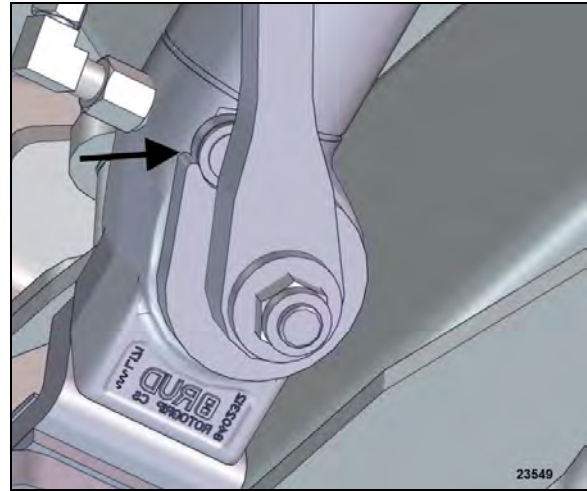

**FIGURE 32: ELECTRO-PNEUMATIC VALVE & 70 PSI VALVE PROTECTION IN FRONT COMPARTMENT**
- Pressing on the button located on top of the system valve in the front pneumatic compartment (this will bypass the electrical activation system as shown in FIGURE 32).